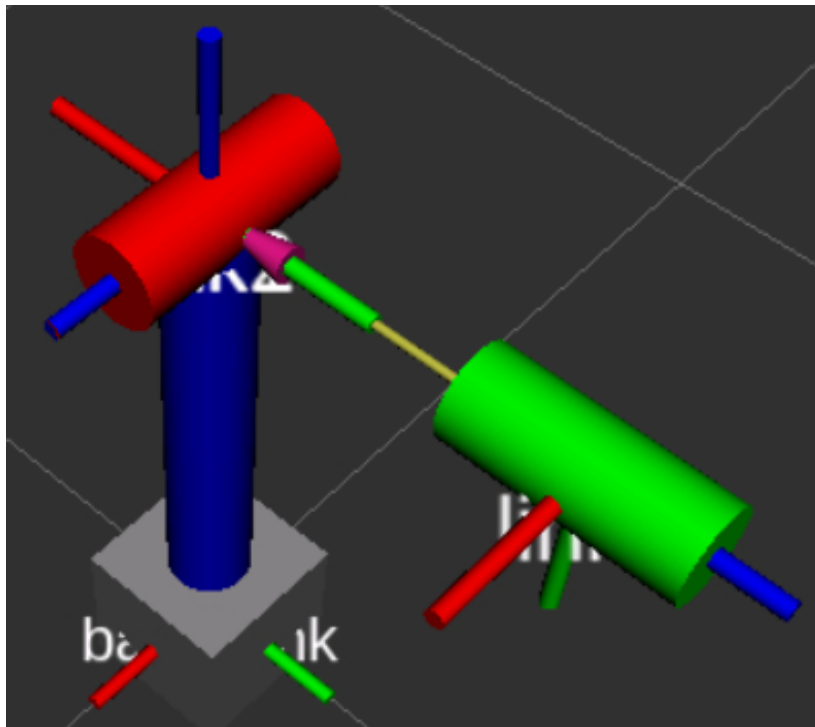

Figure 3: A spherical wrist robot in its zero position.
3. (10 marks) The spherical wrist in Figure 3 robot has the joint-3 with rpy="0 -1.57 0".